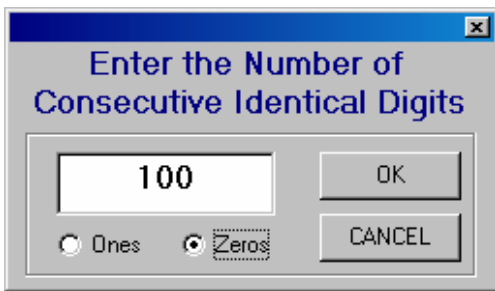

Figure 13. Creator Example Step #7
- Repeat Step 5 except with the **Zeros** option selected (Figure 13).